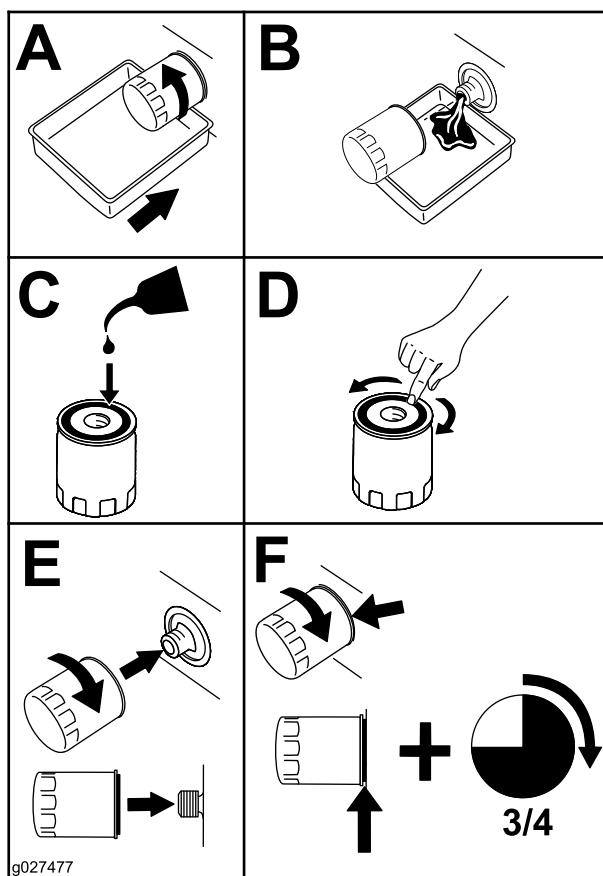

Figure 51
6. Place a container below the filter to catch the oil that drains when the filter and vent plugs are removed (Figure 51).
1. Apply a thin coat of oil on the surface of the rubber seal of each filter (Figure 51).
2. Turn the filter clockwise until rubber seal contacts the filter adapter then tighten the filter an additional 3/4 to 1 full turn (Figure 51).